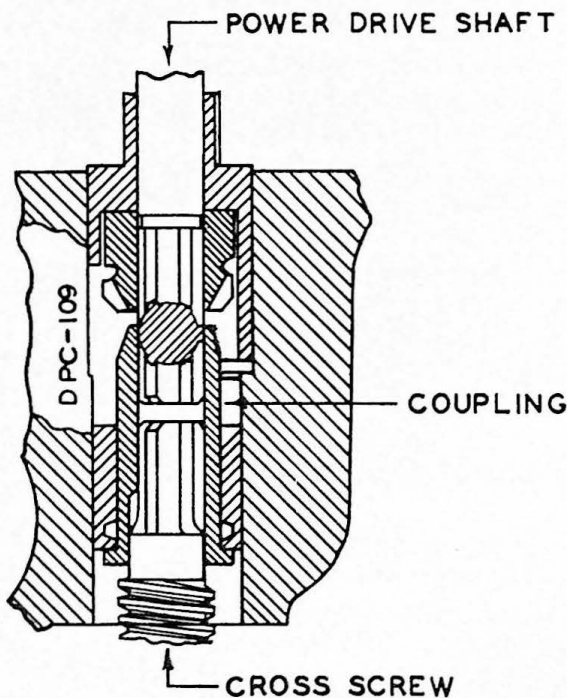

FIGURE 15
4. Move saddle back toward column and bracket may be picked out. Coupling which connects cross feed power drive to cross screw may also fall into coolant compartment. See Figure 15.